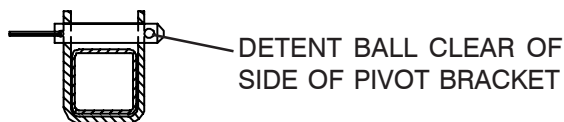

Figure 2-9. Correct Position of Locking Pin
1- Guardrail Locking Pin With Lanyard - To fold the guardrail system down, remove the locking pin at each pivot point and lower each guardrail. To raise the guardrail system, swing up each guardrail and lock in place with the locking pins ensuring that the detent ball of each pin is clear of the side of the pivot brackets. (Figure 2-9.)
3. If equipped with a fold-down guardrail system, swing up and lock all guardrails in place with locking pins. (Refer to Figure 2-9.).